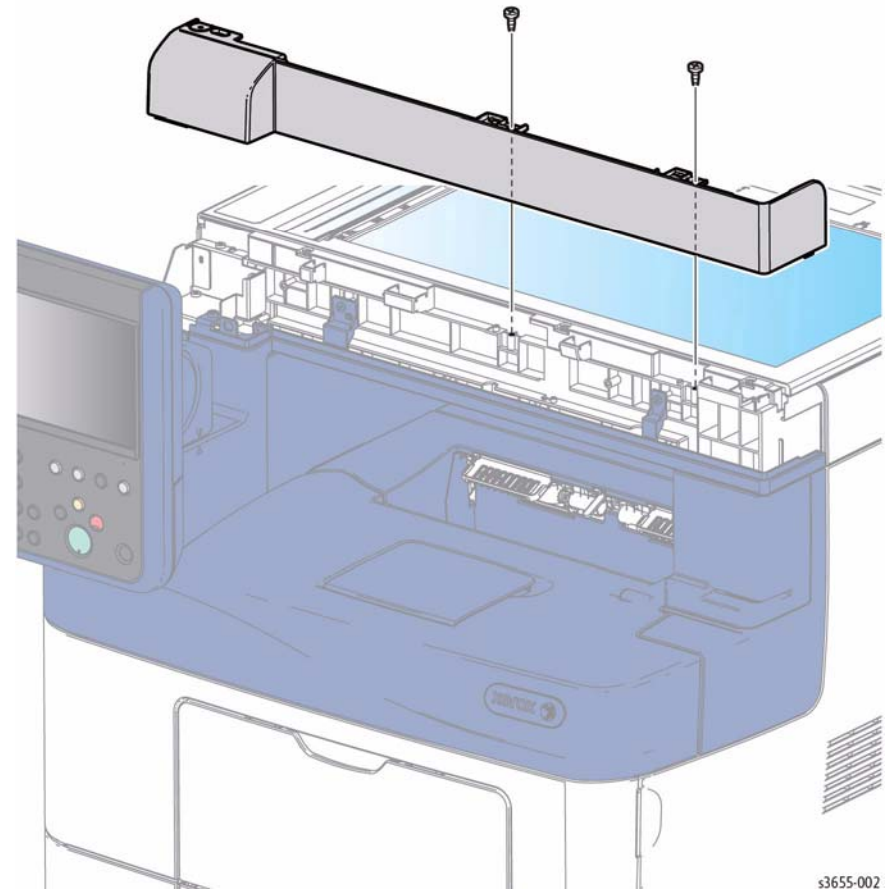

Figure 1 Remove the IIT Front Cover
4. Refer to Figure 1 to locate and remove 2 screws (silver, M3, 6mm) that secure the cover.